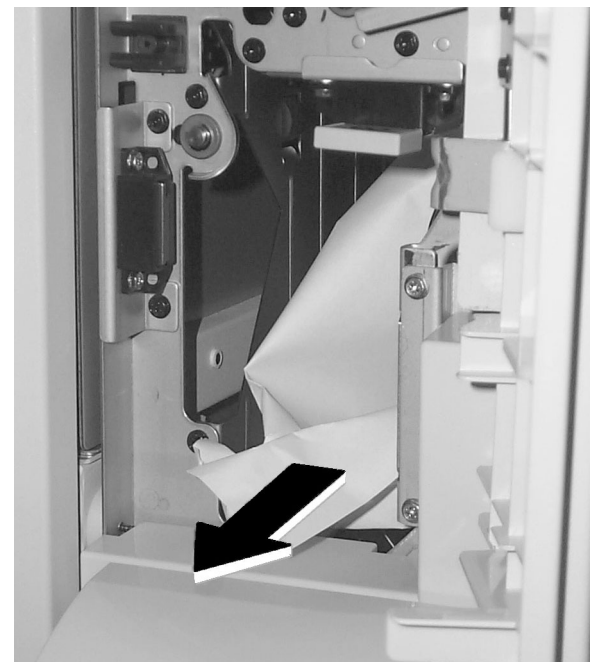

Figure 17: Removing paper from Area 8
- 3 Remove the jammed paper carefully (Figure 17).